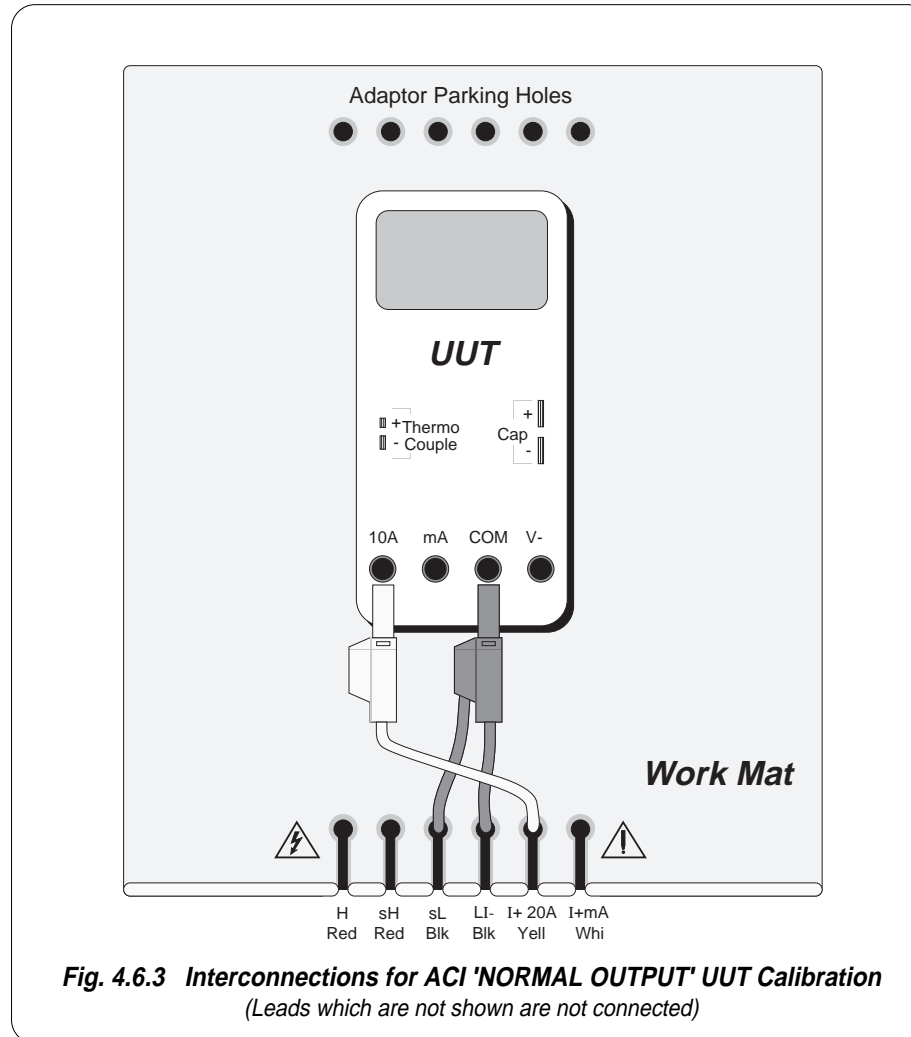

Fig. 4.6.3 Interconnections for ACI 'NORMAL OUTPUT' UUT Calibration
The general connection schemes for UUT calibration of AC Current Function are illustrated in *Figs. 4.6.3, 4.6.4 and 4.6.5.*
1. **Connections** Connect the 9100 to the UUT as shown in *Fig. 4.6.3* (Normal Output), *4.6.4* (Aux Output) or *4.6.5* (Current Coil Output), and ensure that both instruments are powered ON and warmed up.
1. **9100** a. Use the front panel controls to set the 9100 Output to the UUT cal point frequency, current and output (SELECT OUTPUT key). Reconnect (*Fig. 4.6.3, 4.6.4 or 4.6.5*) as required.